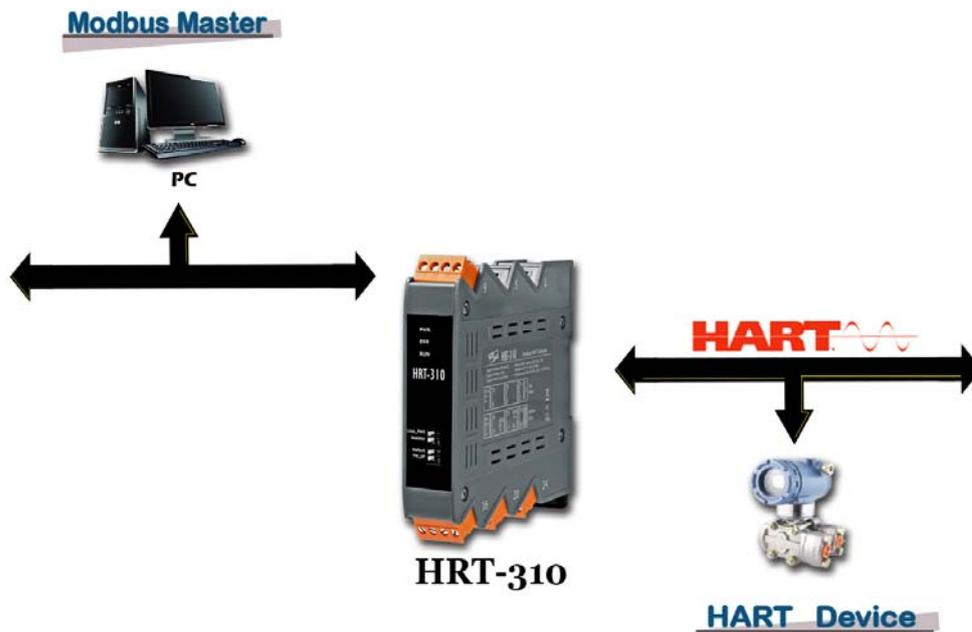

Figure1 : HRT-310 Application Structure
**Step 1:** Connect PC, HRT-310 and HART slave device according to figure1.